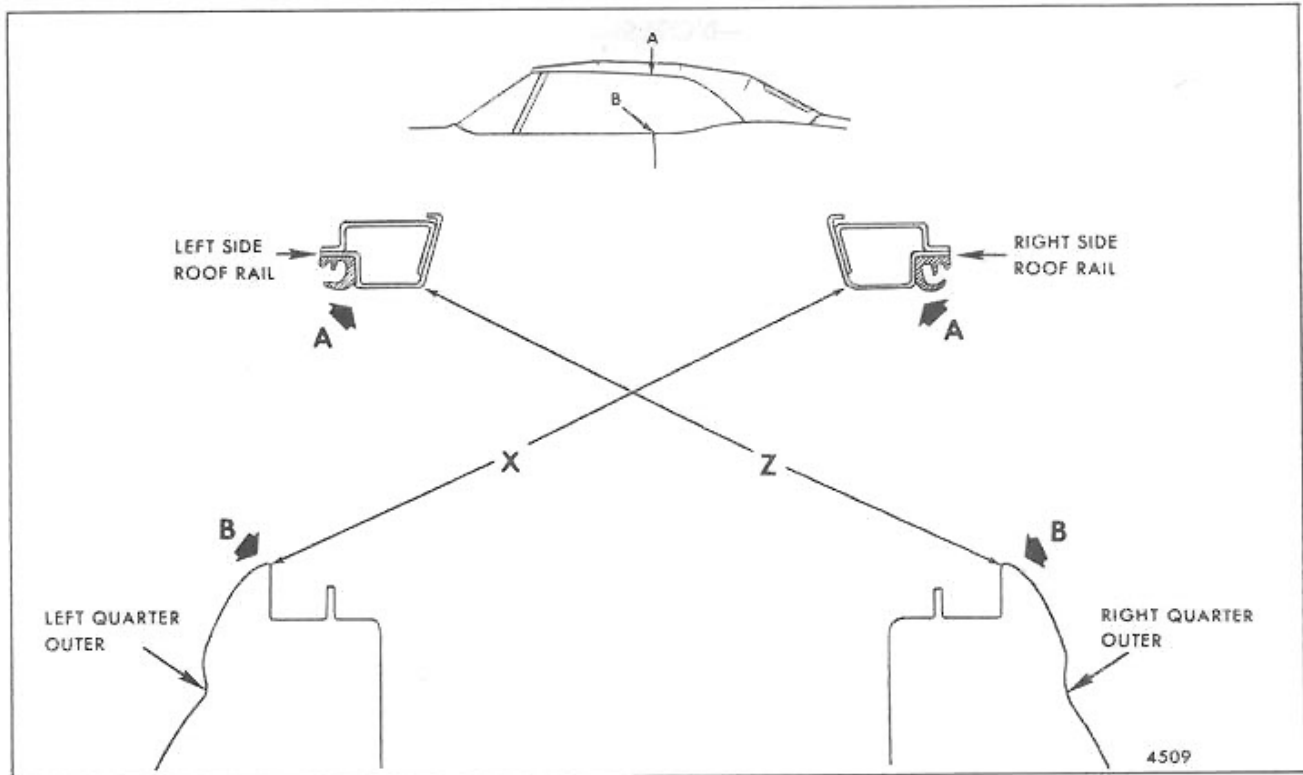

Fig. 29-Diagonal Check of Side Roof Rails
- Cross-check body with tram gauge or tape measure as described in Figure 29. Side rails are in good alignment when both diagonal measurements are within $3/8$ of an inch. Re-check measurements to assure accuracy. If difference between measurements exceeds $3/8$ of an inch, **side rail of longer measurement** requires adjustment to decrease tension. In this event, adjust affected control link mounting plate forward.
B. When diagonal measurements illustrated in Figure 29 are **within 3/8 of an inch**.
8. Repeat adjustment of mounting plate (Steps 3,4,5,6 and 7) until tension checking tool indicates 50 to 70 pounds of force to separate side rail from center bow stop; and diagonal measurements illustrated in Figure 29 are within 3/8 of an inch.
11. Repeat adjustment of mounting plate (Steps 5,6,7,8,9 and 10) until tension checking tool indicates 50 to 70 pounds of force to separate side rail from center bow stop; and diagonal measurements illustrated in Figure 29 are within 3/8 of an inch.